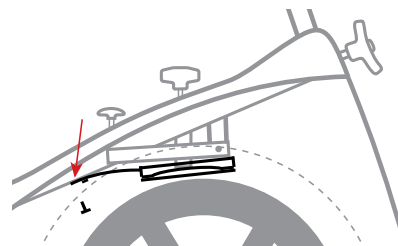

Figure 19
- 7: Fasten the remaining screw furthest away from the block, and then make sure that both screws are tightened properly, see figure 19.